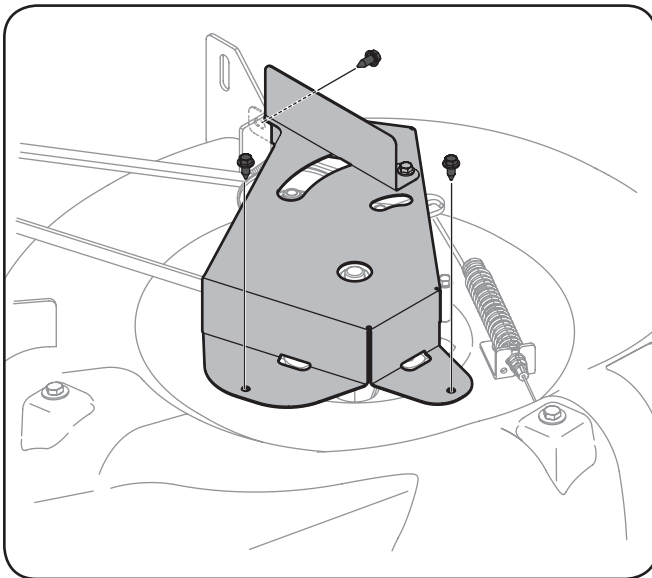

Figure 7-5
4. Remove the deck belt cover by removing the three hex bolts that secure it. See Figure 7-5.